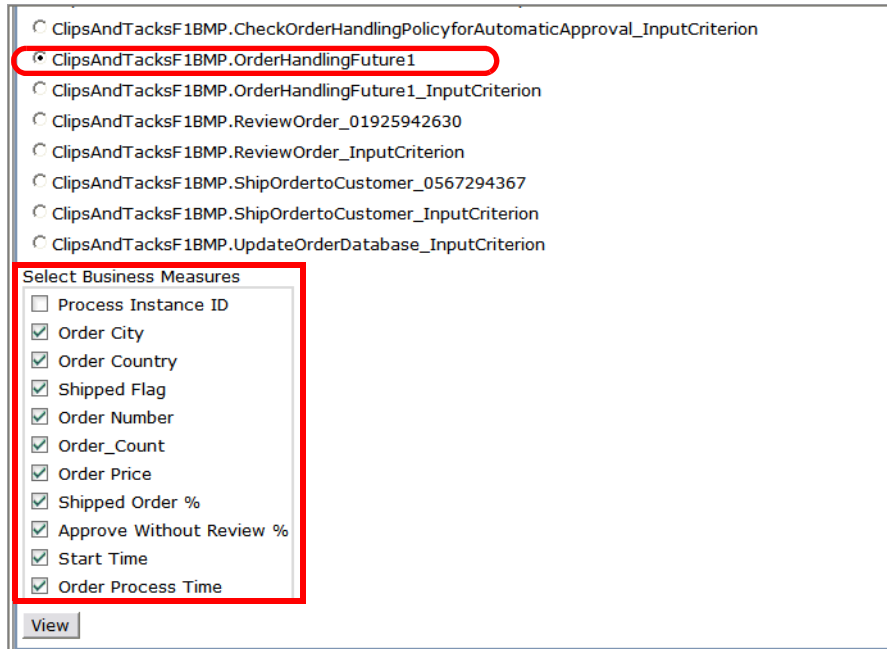

Figure 12-86 Monitor UTE: Select the metrics to be displayed
- ▶ Select the monitoring context, then select the metrics to be displayed (Figure 12-86).